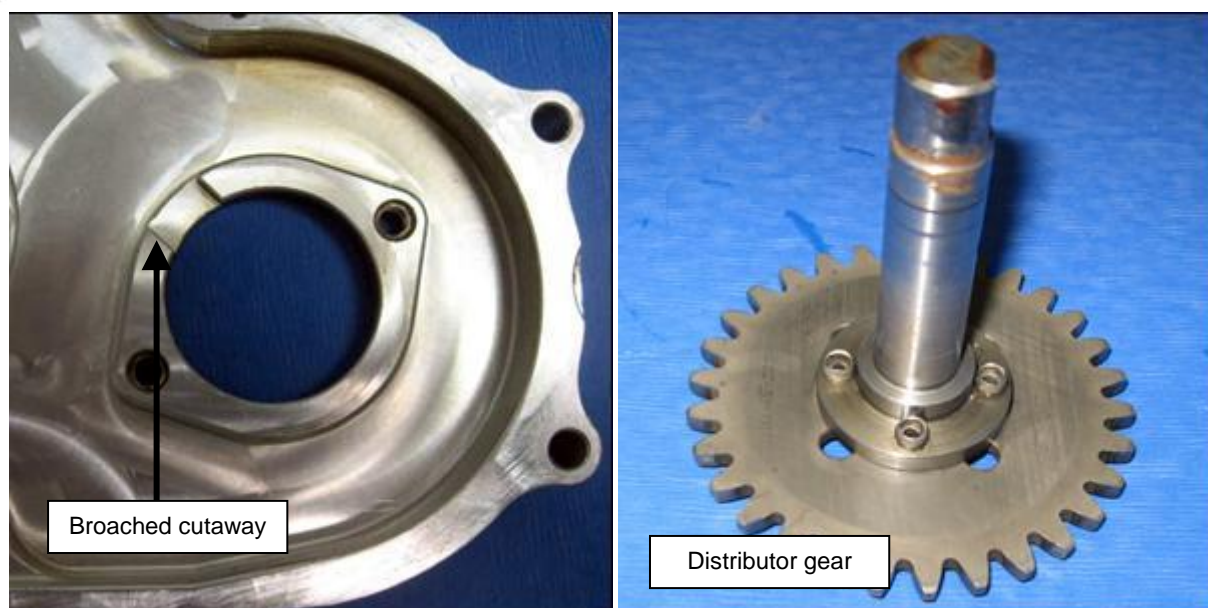

Figure 106 – Distributor Gears & Case
- If deep score marks (from the seal) are present (as shown in Figure 106 – right) the shaft must be replaced.